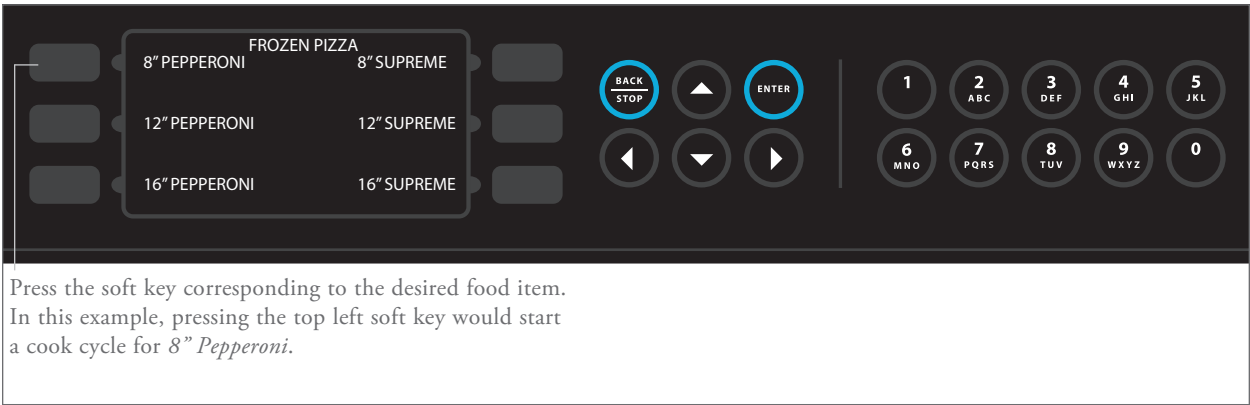

FIGURE 10: Selecting a Food Item
- 5. Select a food item (Figure 10). The oven will begin cooking.